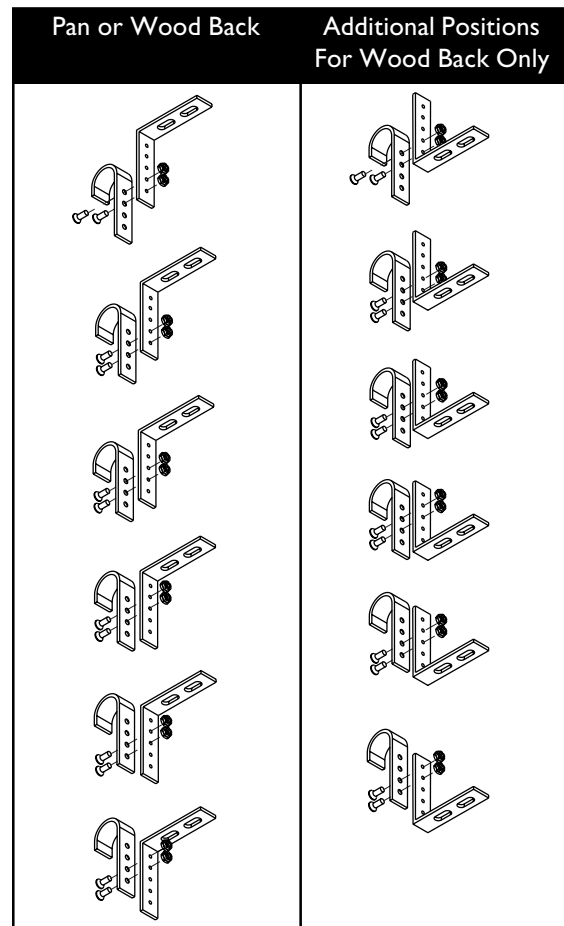

FIGURE 11 - ADJUSTING THE CONTOUR U SEATING SYSTEM SEAT HEIGHT
ADJUSTING THE CONTOUR U SEAT HEIGHT (FIGURE 11)
2. Remove the two (2) mounting screws and locknuts that secure the J bracket to the L bracket.
3. Align two (2) mounting holes of the J bracket with two (2) mounting holes of the L bracket to acquire the desired height as shown in DETAIL "A" of FIGURE 11.
4. Reinstall the two (2) mounting screws and locknuts that secure the J bracket to the L bracket. Securely tighten.
5. Repeat STEPS 3-4 to adjust the remaining three (3) J and L brackets.